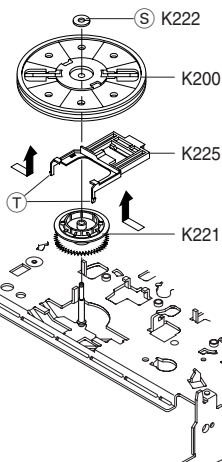

Fig. 15
- Remove the lock washer (S) (Fig. 15).
- Remove the pulley (K200, Fig. 15).
- Release the locking lugs (T) (Fig. 15) then remove the gear drive (K221).
- Otherwise check, clean and replace if necessary the pulley (K200, Fig. 15) and the reel belt (G542, Fig. 2).